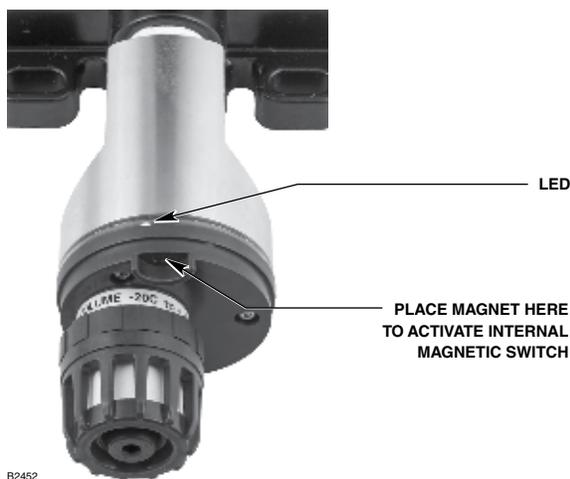

Figure 13—Location of Magnetic Switch on GT3000 Detector
2. Initiate calibration by momentarily holding the calibration magnet against the designated location on the sensor module (see Figure 13) until the green LED turns off and the yellow LED turns on steady (approximately one second). Remove the magnet when the green LED turns off. The detector immediately begins taking zero readings. Calibration can also be initiated via HART interface (see Appendix G) or the UD10 (see manual number 95-8618).